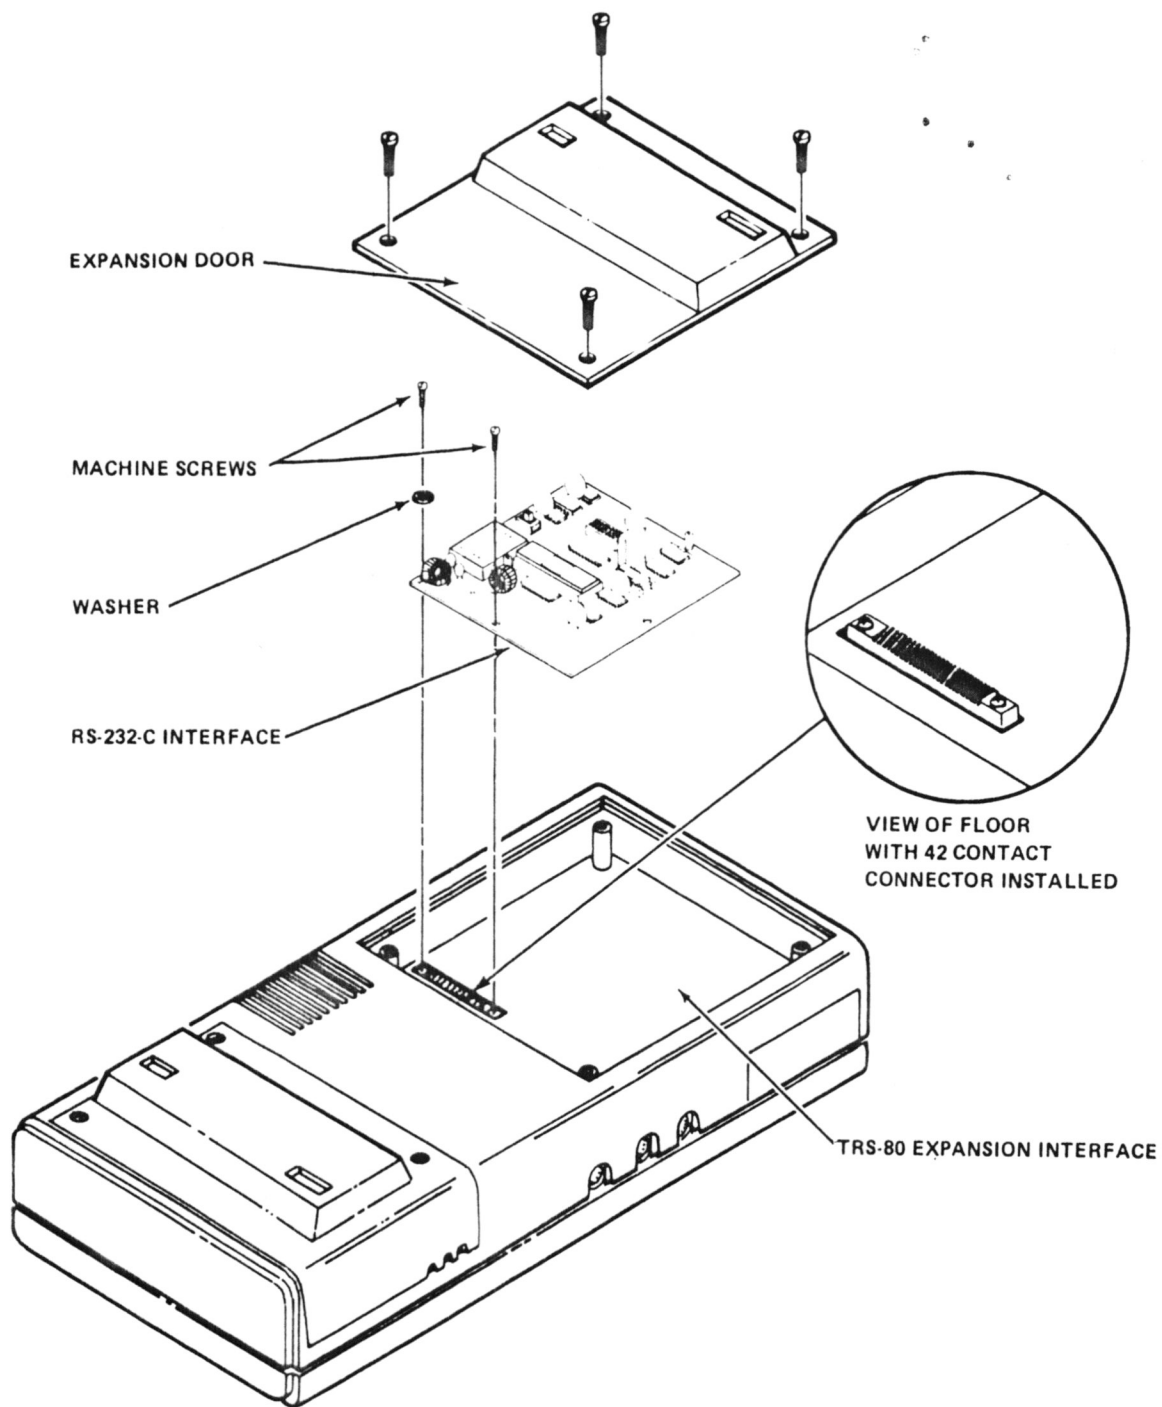

FIGURE 2. RS-232-C INSTALLATION
1. Position the TRS-80 Expansion Interface as shown in Figure 2 and remove the Expansion Door.